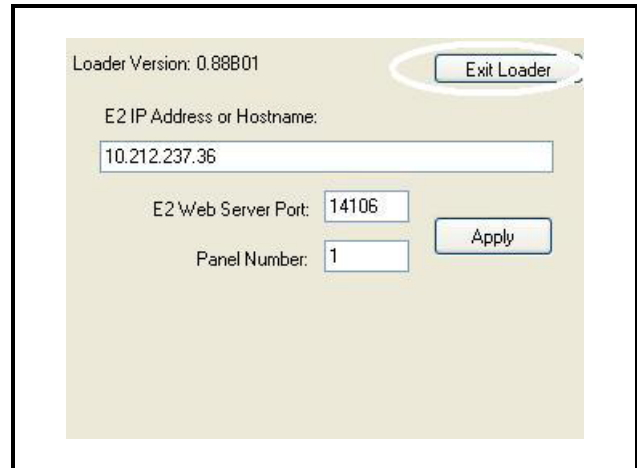

Figure 5-18 - General FSD Information Screen
3. A loader screen will appear (*Figure 5-18*).